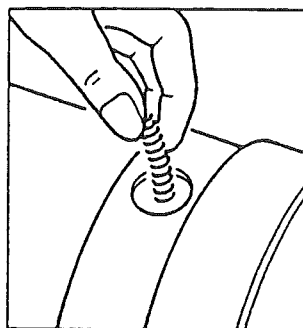

FIG. 9-2
- 2) Remove all brushes (FIG. 9-2).